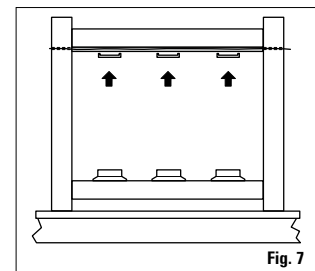

Fig. 7
Step 7: Attach Top Pierce Connectors (Lighted) or Connectors (Non-Lighted). Secure top connectors (T3) to wireway channel at marked locations by placing the legs of the connector around the wireway channel and pressing firmly until the connector snaps to the channel. For Lighted Connectors, this action pierces the wire. Be sure that the assembly is in the proper location prior to snapping to channel. (Fig. 7)
7. Feed main low voltage cable through post or post sleeve and across top connectors. (Figure 7)